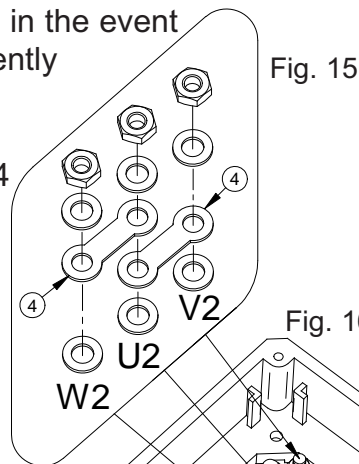

Fig. 15
5. Assemble and secure terminal post links Fig. 15 (item 4), clamping components and conductor eyelets as shown in Figs. 15, 16 and 17.